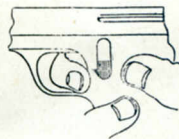

FIGURE 1
1.—The pistol is provided with a thumb safety (Figure 1) so located that it is easily reached by the thumb when the pistol is held in the right hand, making it simple to change the safety lever from «safe» to «fire». This safety acts on the trigger which remains locked to all movement when the body of the safety is opposed to the mass of the trigger, thus preventing movement of the trigger. When the thumb safety is turned to fire position (Figure 2) the safety bar no longer blocks the trigger, allowing movement of the trigger for firing (Figure 3).